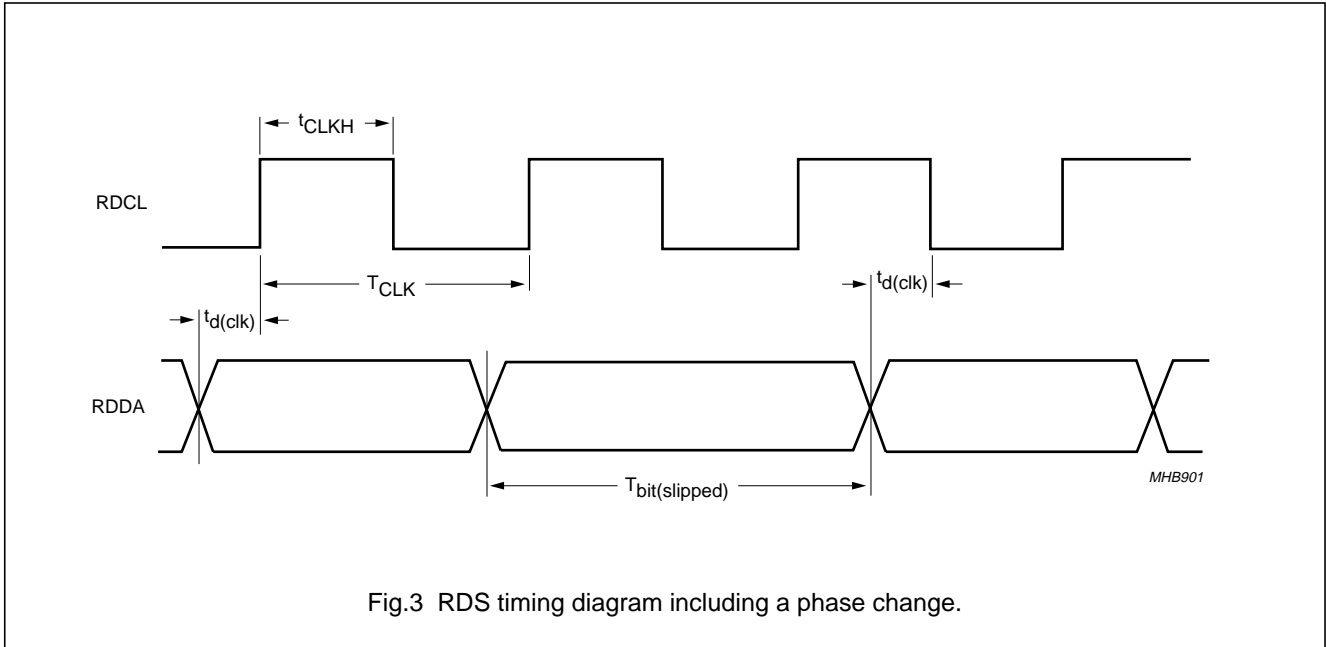

Fig.3 RDS timing diagram including a phase change.
**Table 3** RDS timing (see Fig.3)